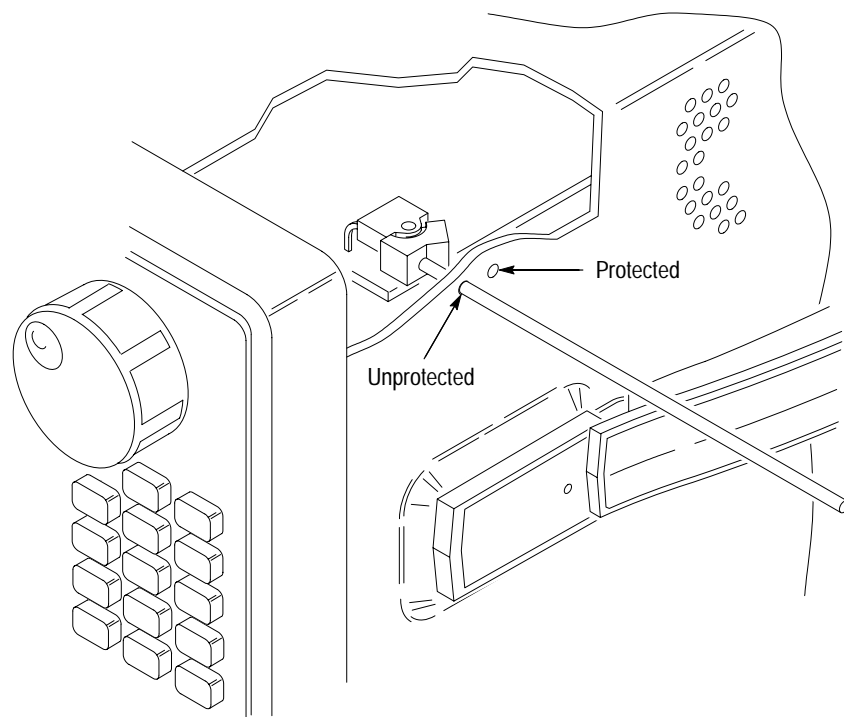

Figure 4: Accessing the protection switch
2. Insert a small, nonconductive object (adjustment tool) into the front access hole located on the right side of the oscilloscope near the front panel. Push the nonconductive object inward to position the NVRAM protection rocker switch in the Unprotected (write-enable) position. See Figure 4.
8. When the program completes execution it should display (A)ccept or (C)hange? Type: A.
9. When the program completes execution it should display (A)bort or (C)ontinue?
10. Insert a small, nonconductive object (adjustment tool) into the rear access hole located on the right side of the oscilloscope near the front panel. Push the nonconductive object inward to position the NVRAM protection rocker switch in the Protected (write-protect) position. See Figure 4 on page 7.
the nonconductive object inward to position the NVRAM protection rocker switch in the Protected (write-protect) position. See Figure 4 on page 7.